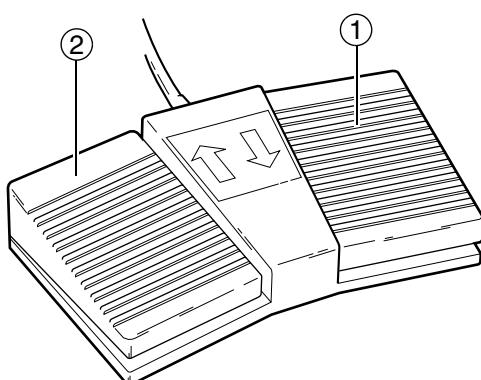

Fig. 2 Foot switch
5. Check the function of the foot switch for motorized compression/decompression (1 and 2/Fig. 2).